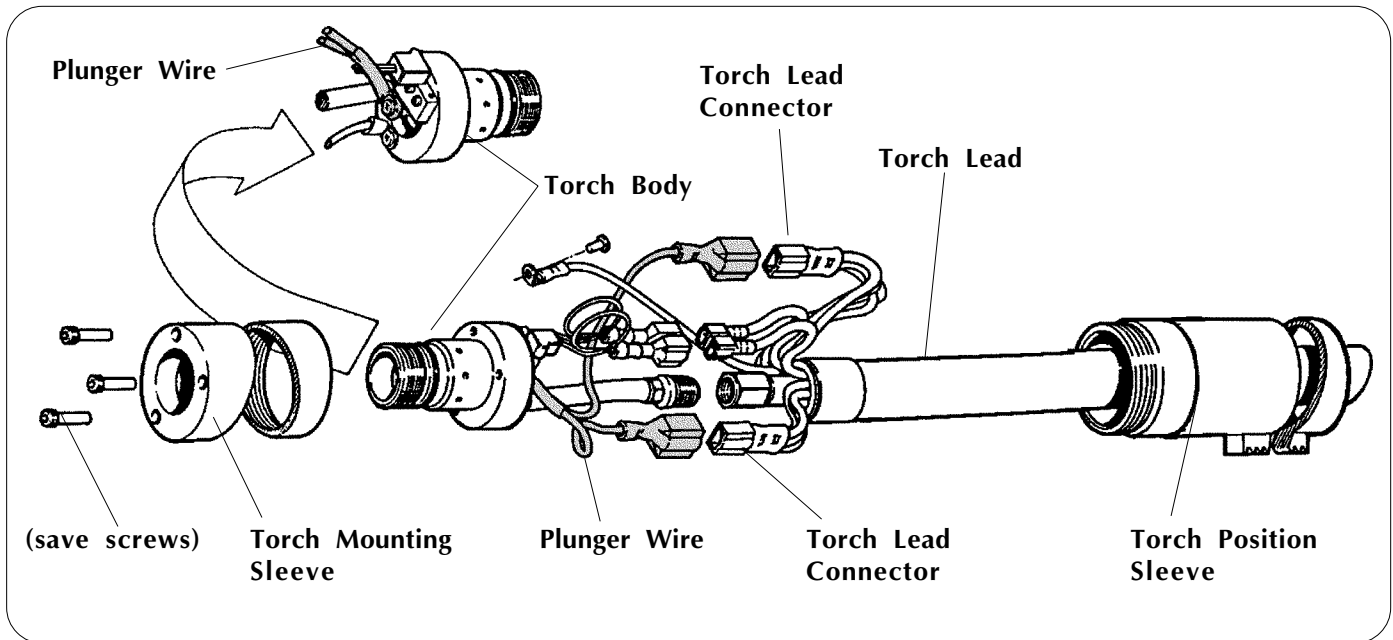

Figure 1 PAC121MS Torch Plunger Wire - Remove/Install
## TORCH LEAD PLUNGER WIRE - REMOVE (FIGURE 1)
## TORCH LEAD PLUNGER WIRE - INSTALL (FIGURE 1 AND 2)
7. Attach the torch mounting sleeve to the torch body with the 3 screws (Figure 1). Torque to 7 in. lb.